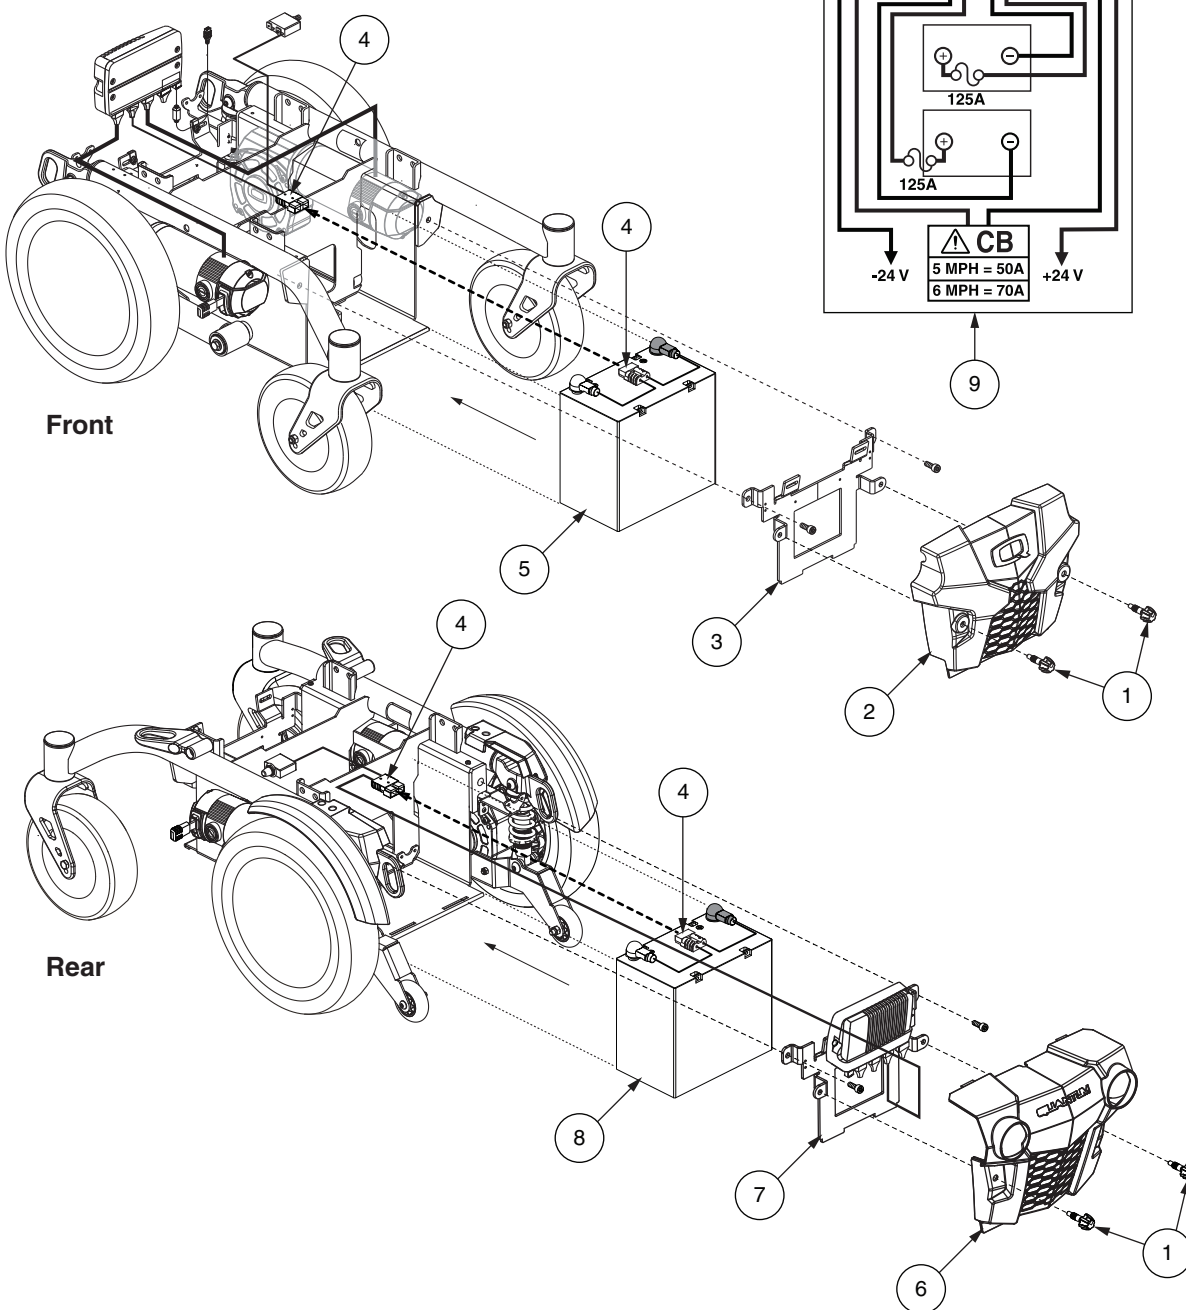

Figure 18. Battery Installation
3. Remove the front and rear covers by loosening the thumbscrews. **See figure 18.**
8. Connect the battery harness to the new front battery according to the battery wiring diagram. **See figure 18.**
9. Connect the battery harness to the new rear battery according to the battery wiring diagram. **See figure 18.**